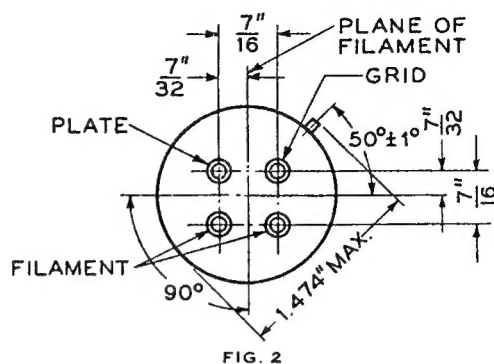

FIG. 2
**Mounting Positions**—Either vertical or horizontal. If mounted in a horizontal position, the plane of the filament, which is indicated in Figure 2, should be vertical.